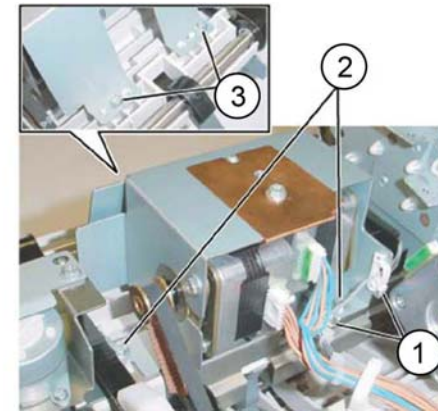

Figure 4 Screw removal
9. Remove the screws securing the eject/set clamp motor assembly, Figure 4:
- a. Release the harness from both clamps (1).
- b. Remove both screws (2).
- c. Remove both self-tapping screws (3).